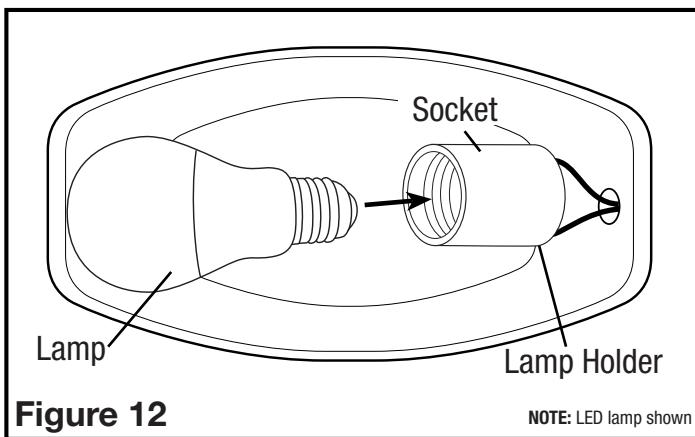
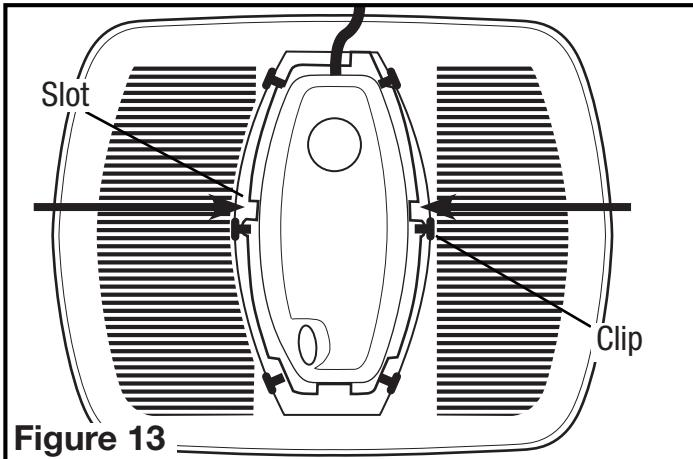

Figure 12
Figure 13
4. Install the included lamp into the E26 (screw base) lamp holder (Figure 12).
5. Install the reflector onto the grill by placing the slots on the side of the reflector over the lens clips near the center of the grill. While squeezing the middle of the reflector, slide it so that the plastic notches rest under the lens clips and the reflector feels secure (**Figure 13**).
3. **Changing the Lamp:** Disconnect power to the unit. Remove grill by pulling downward on grill and squeezing grill springs together to release from housing (**Figure 13**). Remove Reflector from grill by sliding the reflector notches from beneath the lens clips on grill. (**Figure 12**).